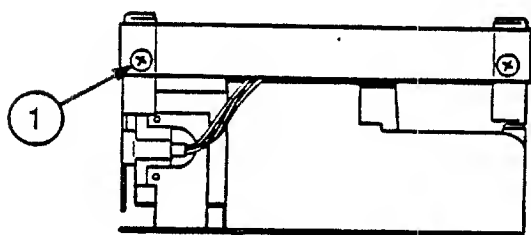

FIGURE 18
5. Turn the HDA so that the rounded side is facing you, and remove the ground strap (Figure 18, #1) by grasping its plug firmly with the needlenose pliers and pulling.